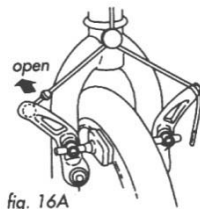

fig. 16A
(1) Open up the brake shoes (see Section 6.3.1, Figs. 16a, b, c and d).
(1) Open the rear brake shoes (see Section 6.3.1, Figs. 16a, b, c and d).
(2) Shift the rear derailleur to high gear (the smallest rear sprocket) and pull the derailleur body back with your right hand.
(3) With a 15mm box wrench or a six-inch adjustable wrench, loosen the two axle nuts.
(4) Lift the rear wheel off the ground a few inches and, with the derailleur still pulled back, push the wheel forward and down until it comes out of the rear dropouts.
Most brakes have some form of quick release mechanism to allow the brake shoes to clear the tire when a wheel is removed or reinstalled. When the brake quick release is in the open position, the brakes are inoperative. Ask your dealer to make sure that you understand the way the brake quick release works on your bike (see Fig. 16A, B,C &D) and check each time to make sure both brakes work correctly before you get on the bike.